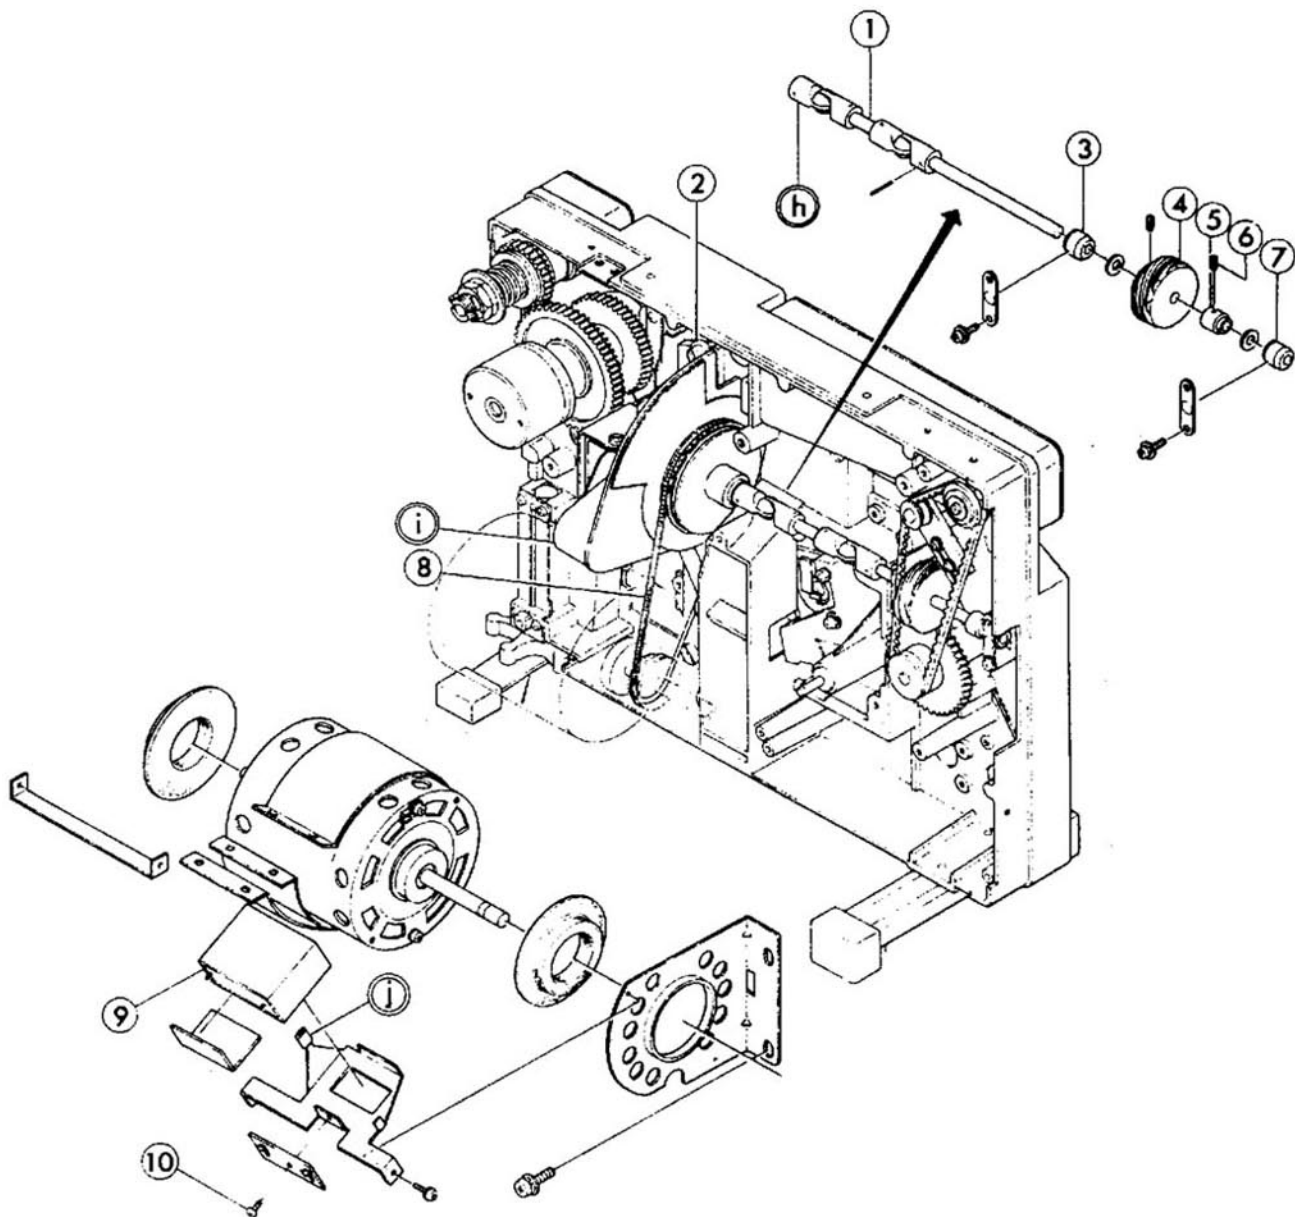

Fig. 11
- (2) After (j) in Fig. 11 is raised up, remove Fig. 11-9 by detaching Fig. 11-10.
- (4) Remove Fig. 11-8 from (i) in Fig. 11.
- (5) Set Fig. 1-22 at "Ⓢ" position and remove (i) in Fig. 11 by detaching Fig. 11-2x2.